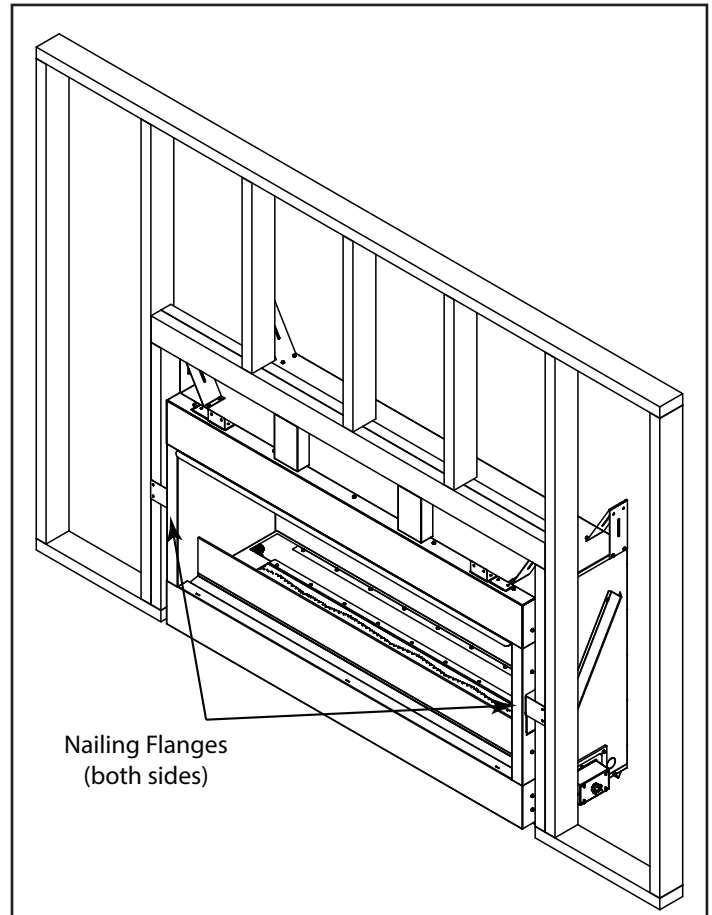

Figure 4.1. Positioning and Securing Nailing Tab
- Nailing tabs must be moved from shipping position to installation position and secured to framing. Bend the two nailing tabs out on each side. See Figure 4.1.